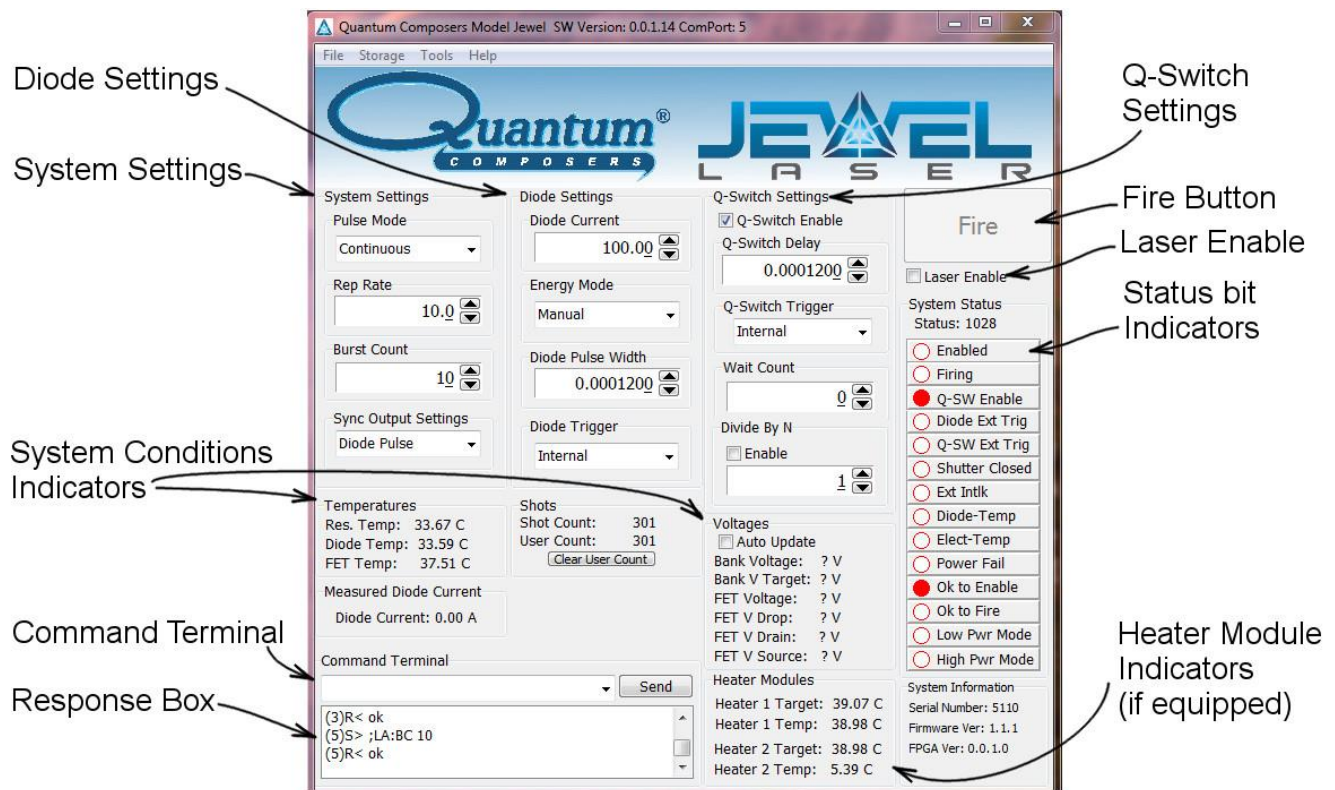

Figure 12 Jewel Software Application Main Window
- The Jewel Laser application startup screen will be displayed as shown in Figure 12.